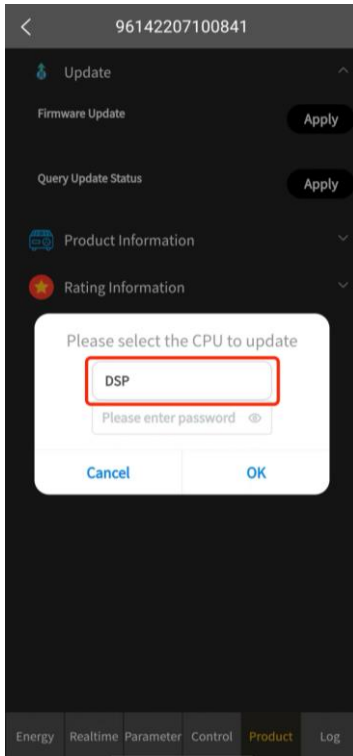

Figure 1
- (1) If the inverter does not upload the firmware, a warning dialog will pop up. Please contact the supplier to upload the firmware.
(2) For the first update, the update pop-up dialog is shown below.
(3) If not the first update, the last updated CPU will be indicated at the location circled in red.
5. Click the selection box circled in red in Figure 1 to call the drop-down box option. Select the CPU to be updated. In the example shown in Figure 2, DSP is selected.